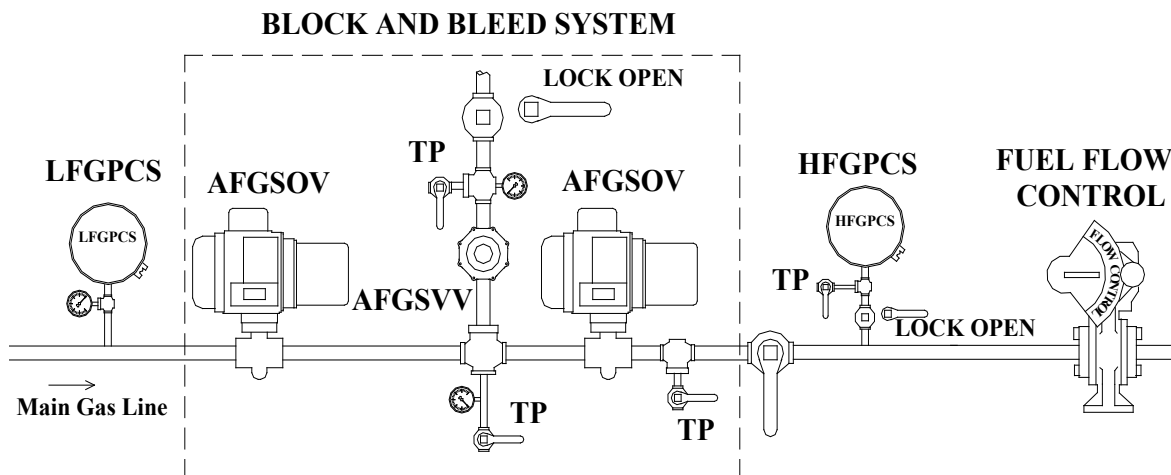

Figure 1.3 Test setup for leak testing the two Automatic Fuel Gas Shut Off Valves and the Automatic Fuel Gas Vent Valve
To easily test for leaks in the block valves, a test port (TP) and calibrated pressure gage must be available both in the line between the valves and downstream of the second valve. Also, in the case of gas, a lockable manual valve downstream of the solenoid bleed vent valve is required. A port and pressure gage in the line between the solenoid valve and lockable manual valve is also needed as shown in Figure 1.3. Note, there are two test ports (TP) for determining normal operating pressures and one test port (TP) for testing the automatic fuel gas vent valve for leaks. This arrangement is schematically shown for natural gas in Figure 1.3. The arrangement for testing the automatic fuel oil valves is the same with the exception the vent line is absent with its attendant test arrangement as shown in the test procedure for oil leaks in Appendix A. (Note that some boiler manufacturers do include a liquid relief valve between the two automatic fuel shut off valves. If this relief valve is included, it must be tested.)